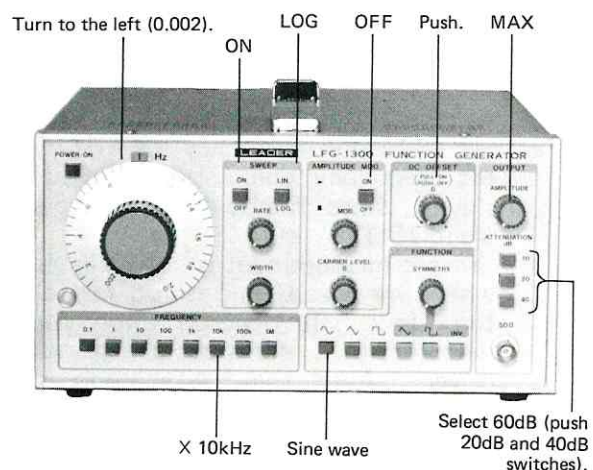

Fig. 5-14
Set the front panel functions as shown in Fig. 5-14.
- (1) Make the interconnection as shown in Fig. 5-14.